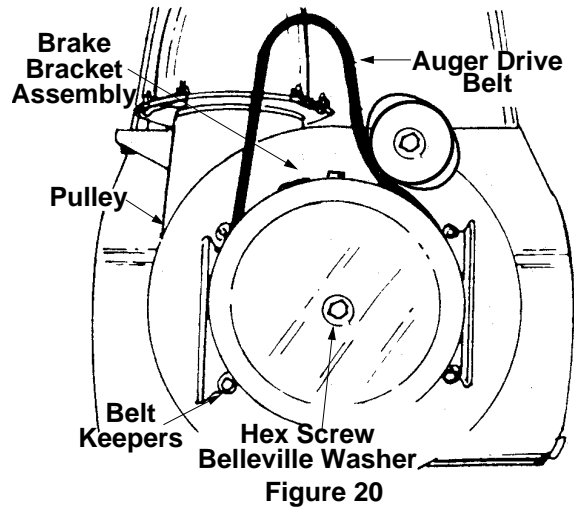

Figure 20
- Using a 1/2" wrench remove the hex screw and belleville washer from the center of the pulley on the auger housing. Lift the brake bracket assembly out of the pulley groove and remove the pulley. See Figure 20. Be careful not to lose the key.